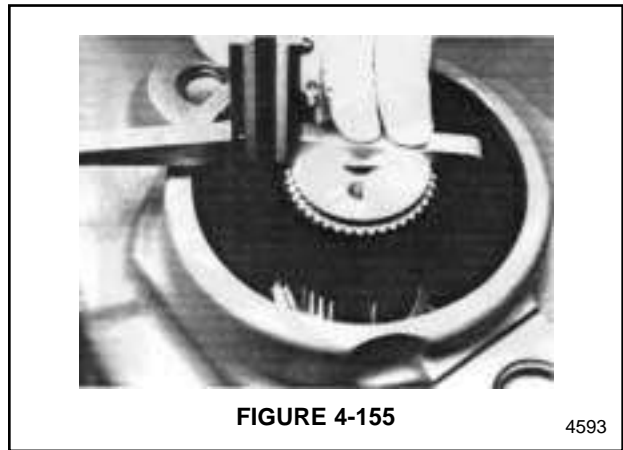

FIGURE 4-155
2. Use a depth micrometer to measure from the top of the bore, to the edge of the bearing on the output shaft. See Figure 4-155. In the example shown, the distance was measured